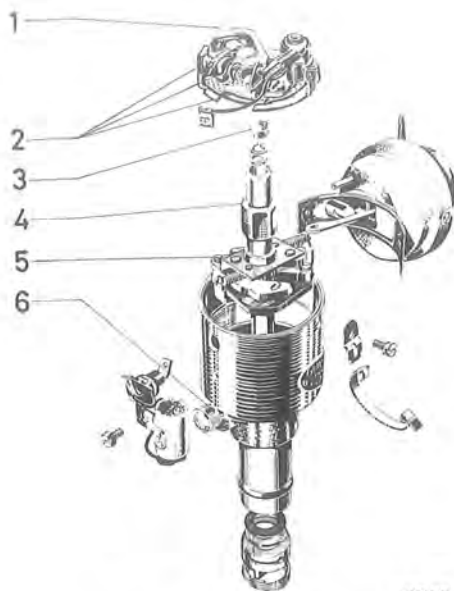

Fig. 3-55. Lubricating scheme for distributor
1. Lubricate the distributor parts according to the instructions given in Fig. 3-55.
- Lubricate the distributor according to the instructions given in Fig. 3-55.